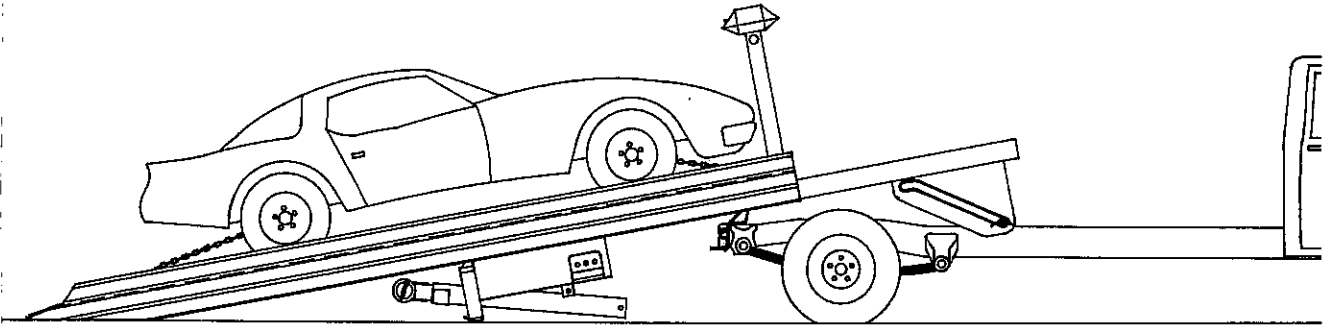

Figure 6-1.8
- 6-1.8 Anchor the front and back of the load to the bed key hole slots, or D-rings. Use 5/16 "HI-TEST" chain. (See fig. 6-1.8)